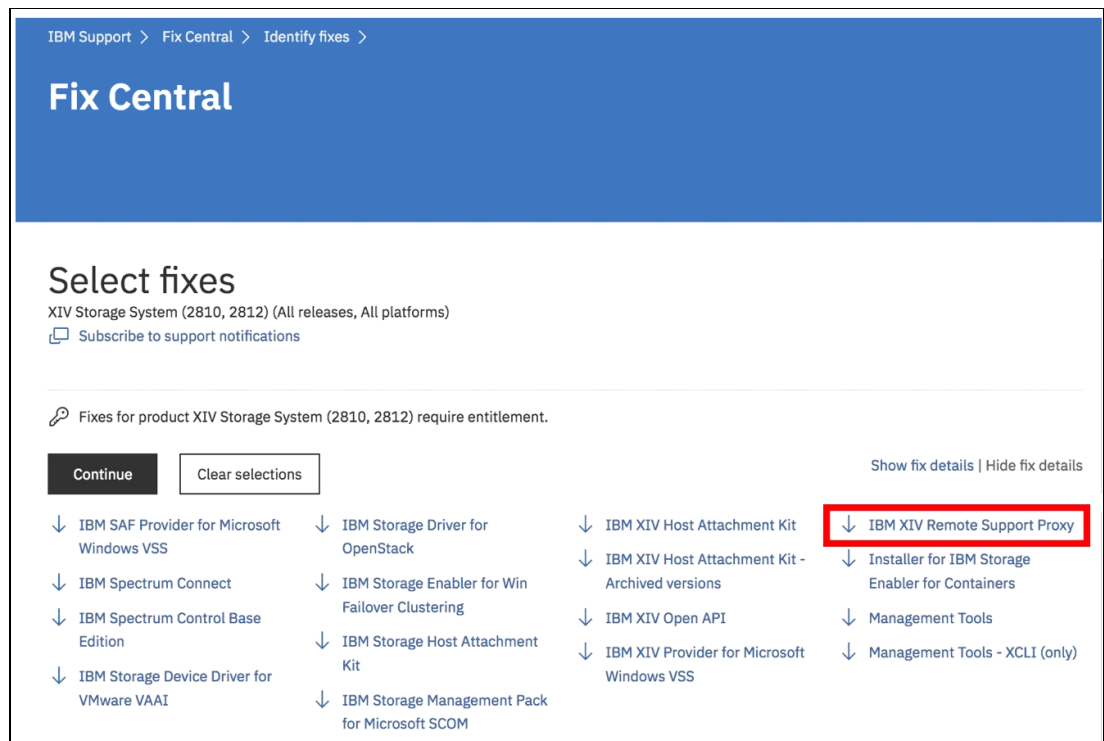

Figure 4-15 Locating the XIV Remote Support Proxy Software
Figure 4-15 shows the main page of the IBM XIV software where the Remote Support Proxy code can be downloaded.
2. Select the IBM XIV Remote Support Proxy, as shown in Figure 4-15.